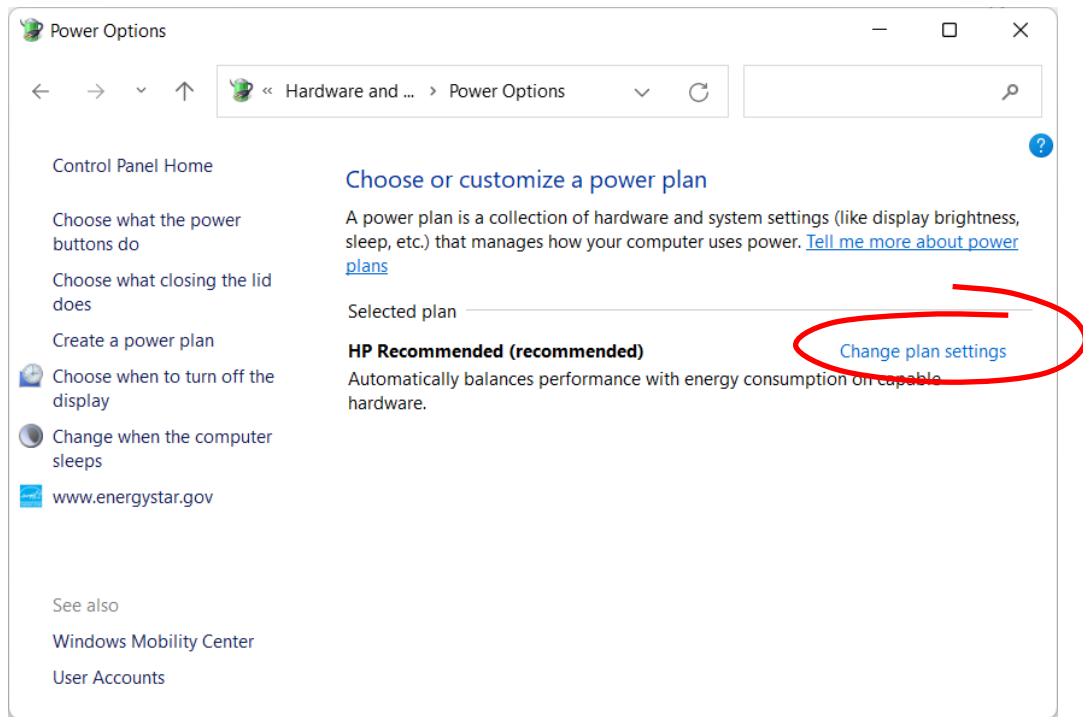

Fig.5.2. Power options dialog.
3. Follow the link **Change plan settings** (Fig. 5.2.)